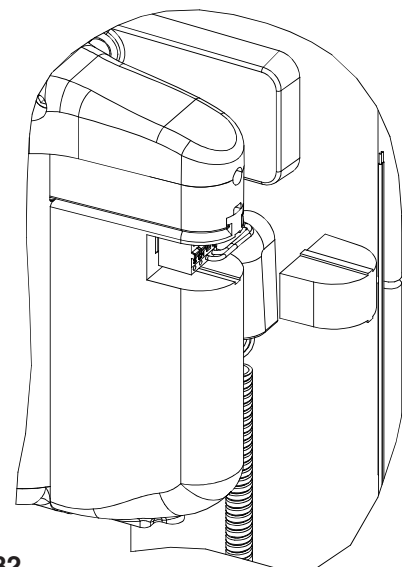

Figure 32
5. Refer To Figure 32, and INSTALL receptacle cover onto battery pack.
2. If the spring tension needs to be adjusted, refer to Figure 32, and ADJUST door-open spring tension as follows: